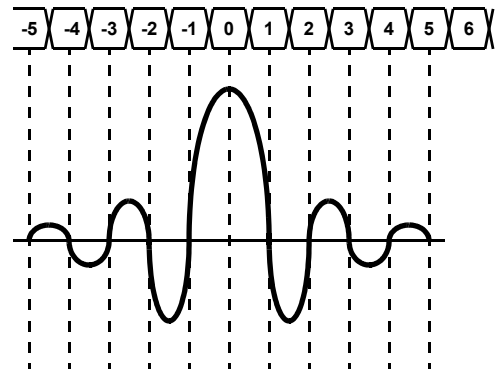

FIGURE 1. RRC FILTER CONVOLVING WITH A DATA SOURCE
The square root Raised Cosine Filter is derived from a broader class of filters called Raised Cosine Filters. Raised Cosine (RC) Filters have zero crossings where the adjacent symbols are suppose to occur. Figure 1 is an example of a Raised Cosine Filter. The center of the symbols are designated by the dotted lines. If the received signal contains a lot of intersymbol interference (ISI), the Raised Cosine Filter suppresses the information from adjacent symbols. The adjacent information is zeroed out during the convolution.